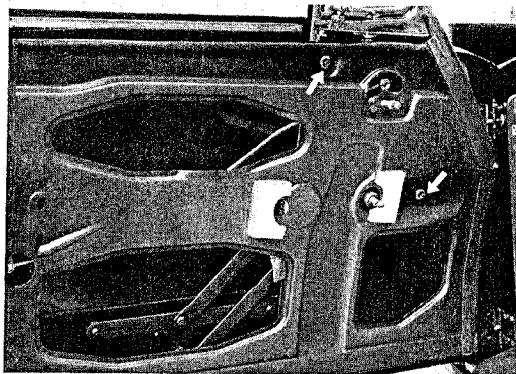

Fig. 54
5. Remove two cap screws from the inside of the door indicated by arrows in Fig. 54.